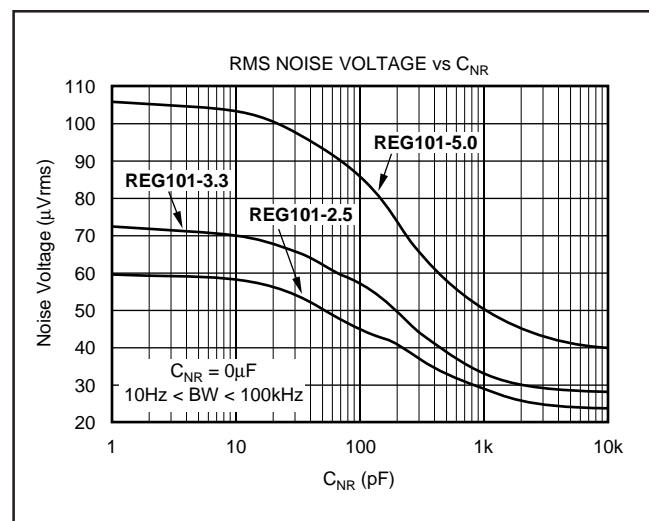
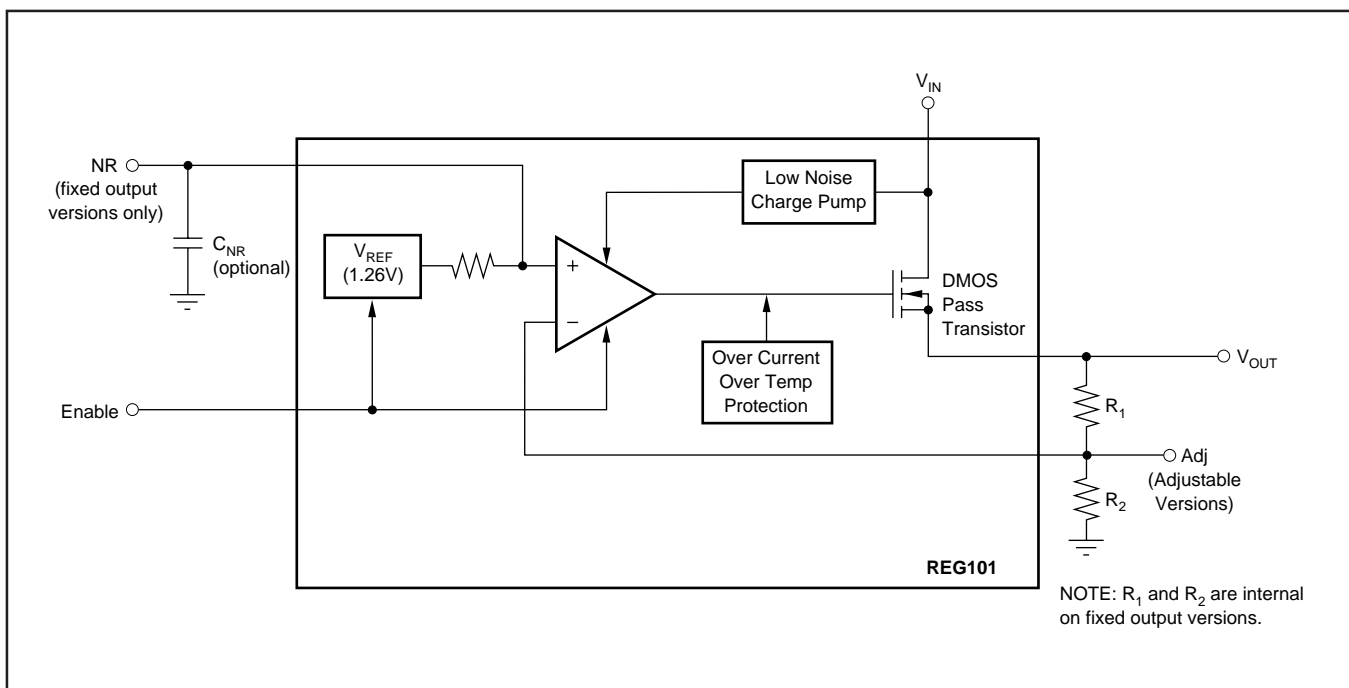

FIGURE 5. Output Noise versus Noise Reduction Capacitor.
FIGURE 4. Block Diagram.
Connecting a capacitor,  $C_{NR}$ , from the Noise Reduction (NR) pin to ground, as shown in Figure 4, forms a low-pass filter for the voltage reference. For  $C_{NR} = 10nF$ , the total noise in the 10Hz to 100kHz bandwidth is reduced by approximately a factor of 2.8 for  $V_O = 3.3V$ . This noise reduction effect is shown in Figure 5 and as “RMS Noise Voltage vs  $C_{NR}$ ” in the Typical Characteristics section.